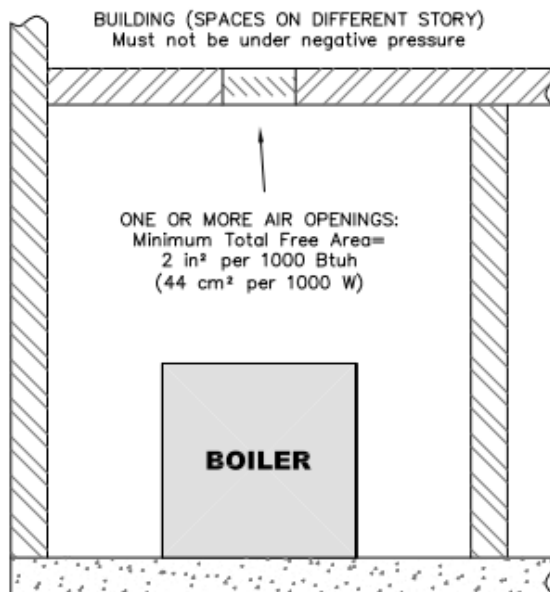

Figure 1.3: Air Openings – All Air from Indoors on Different Floors
b. **Combining Spaces on Different Floors:** Provide one or more permanent openings communicating with additional spaces that have a total minimum free area of 2 in² per 1000 Btu/hr (44 cm² per 1000 W) of total input rating of all equipment. See Figure 1.3 for an illustration of this arrangement.